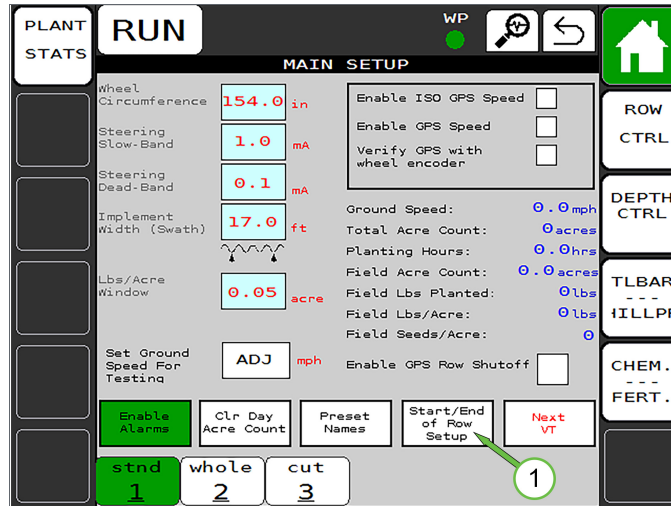

Figure 12
The Dry Fertilizer Configuration, Home settings screen includes the (1) *Start/End of Row Setup* key. Touch the key to open the Start/End of Row Setup screen. (see Figure 12)